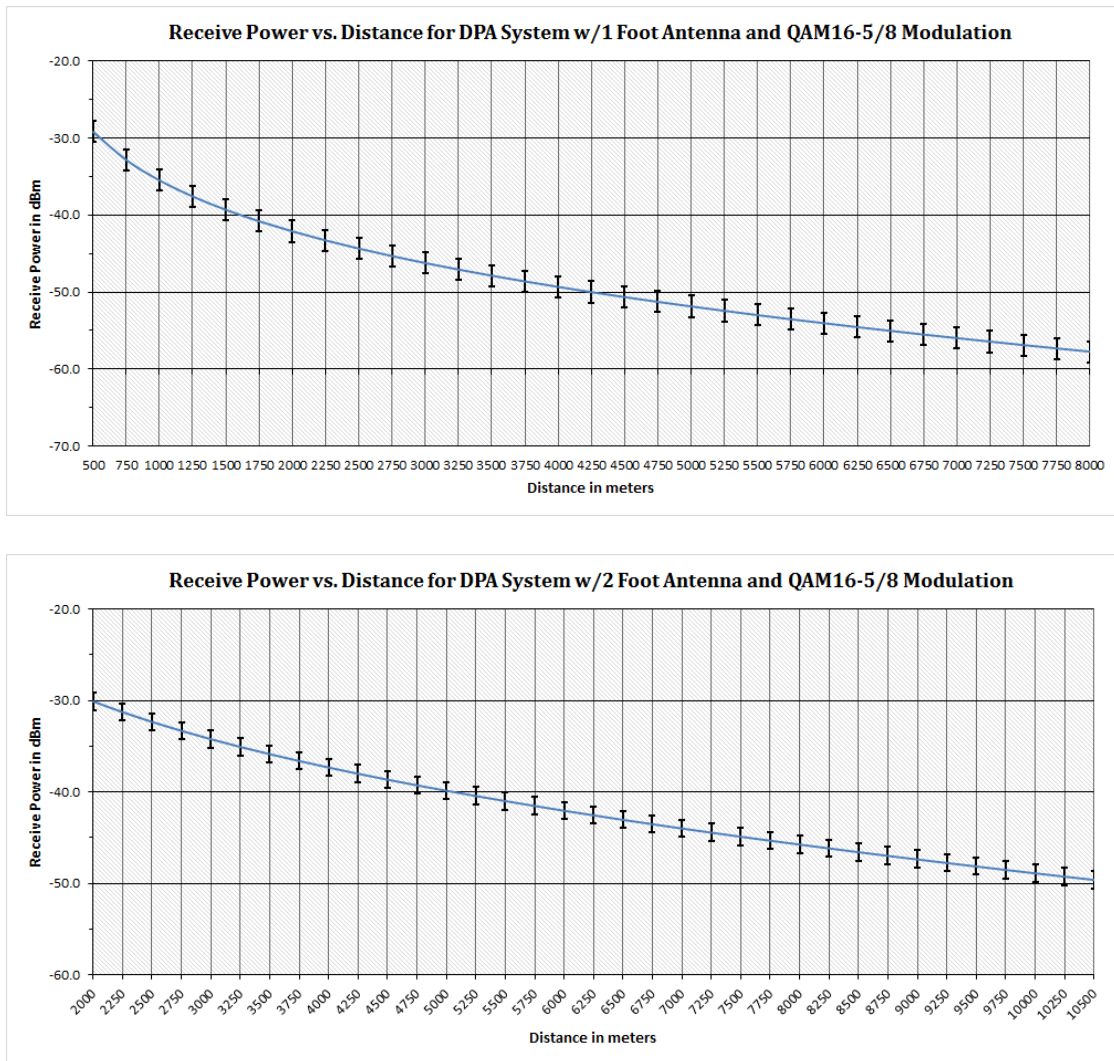

Figure 6-7: Typical AireLink 80 DPA RSSI vs. Distance Charts
7. When aligning the system it is important to take a look at the Receive Signal Strength Indicator (RSSI) voltage shown in Fig. 6-7. The voltage reading is the actual receive power in dBm. The RSSI chart shows the RSSI signal voltage as a function of the deployment distance in clear weather conditions. Therefore, and when the system is installed under non-clear weather conditions, the values can be lower during the actual installation process. The RSSI values are different for the low band and the high band radio and the values vary slightly and within a few percent from one radio system to another due to manufacturing tolerances. However, the chart provides a very good indication of expected RSSI values as a function of deployment distance. The overall goal of the alignment process is to align the system as close as possible to the RSSI value provided in the RSSI chart.